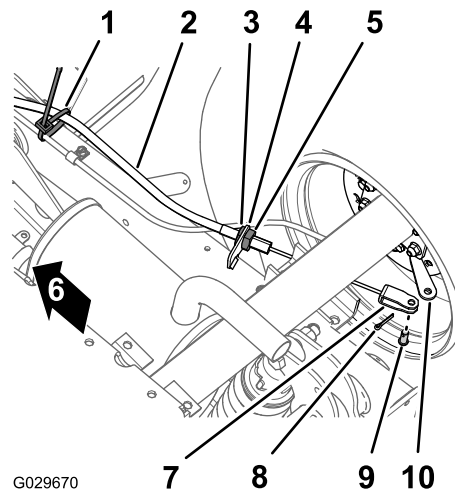

Figure 41
1. At the bottom of the machine, remove the cable tie that secures the parking-brake cable to the service brake line (Figure 41).
2. Mark a rotation stripe on the forward jam nut for the parking-brake cable (Figure 41).
3. Loosen the rear-jam nut and remove the cable from the brake-cable bracket (Figure 41).
4. Remove the cotter pin and the clevis pin that secure the clevis for the parking-brake cable to the brake-actuating lever and separate the cable from the lever (Figure 41).
1. Route the threaded adjuster of the parking-brake cable to the brake-cable bracket and the clevis to the brake-actuating lever (Figure 41).
3. Align the threaded adjuster of the parking -brake cable to the brake-cable bracket and tighten the rear-jam nut (Figure 41).